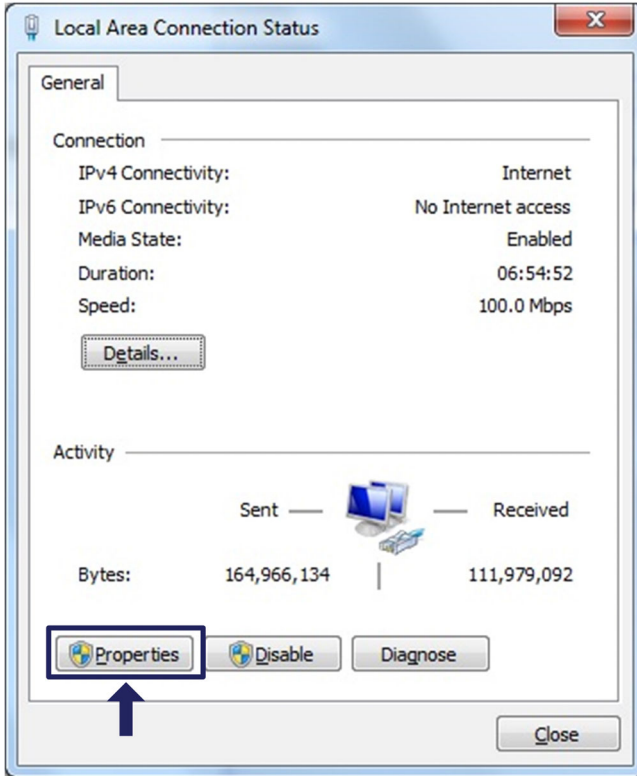

Fig. 3.7 Local Area Connection Status
- ▶ Select the LAN connection. The window displayed in Fig. 3.7 will appear. Click on **Properties**.